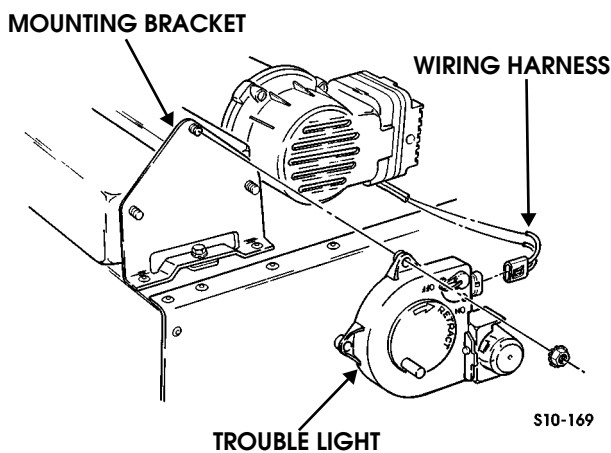

Figure 10-172: Trouble Light Replacement
1. Disconnect wiring harness from trouble light (Figure 10-172).
1. Install trouble light on mounting bracket with three nut and lockwasher assemblies (Figure 10-172).